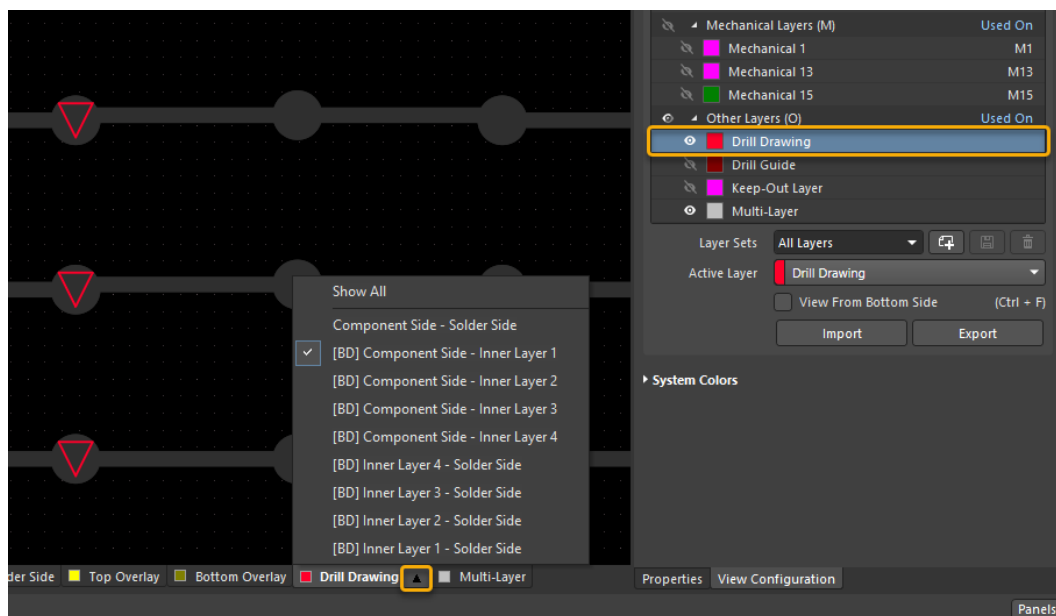

Figure 17. Configuration for Drill Drawing
32. If not already, change to 2D mode, activate the Drill Drawing layer in the **View Configuration panel (L - shortcut key to open panel)** and now you can control the visibility for the Drill Symbols by selecting the **up-arrow** icon beside the layer tab, Figure 17.